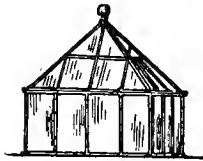

FIG. 76.
**Handlights and Plant-Protectors.** — The old-fashioned handlight, made with small pieces of glass set in a framework of lead or iron, and which is illustrated in Fig. 76, was largely employed for protecting early cauliflowers, lettuces, vegetable marrows, etc., and for raising small seeds. They are still employed to some extent, but have been in a great measure displaced by pits and frames of the ordinary type. Some handlights are, or were, made with movable tops, and some without, but where a considerable number are required, as to cover any extent